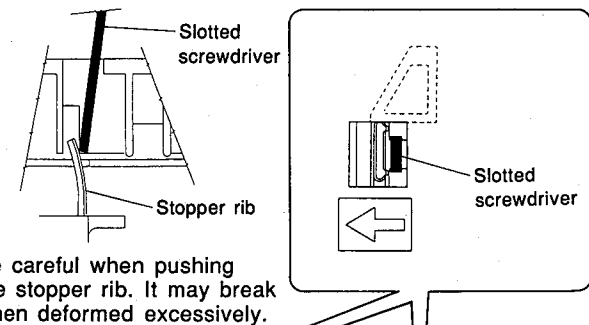

Fig. 2
- While pushing the Stopper Rib in the arrow (◁) direction with a slotted screwdriver or the like inserted into the opening for removal at the rear right of the Tray, pull out the Tray Ass'y. (Fig. 2)